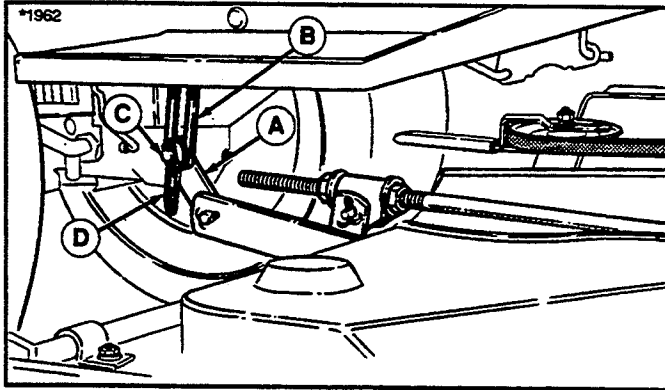

Figure 8. Lift Arms (Viewed from underneath right side of tractor)
4. See figure 8. Connect the mower lift arm (A) to the tractor lift arm (B) using the flat washer (C) and safety clip (D).
4. Disconnect the mower lift arm from the tractor lift arm (figure 8). Re-install washer and safety clip on mower lift arm for storage.